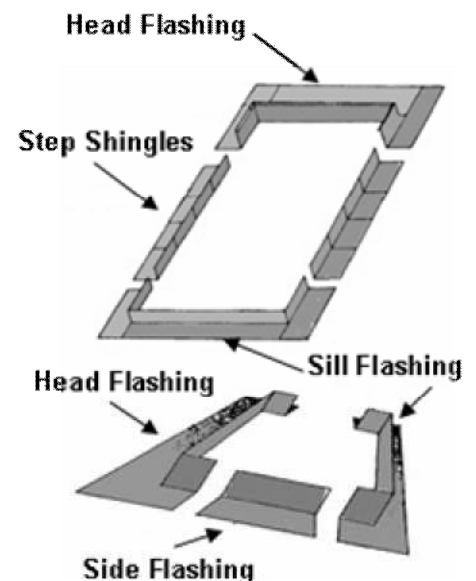

Fig. 3 - Flashing the Curb Box
Step 9 - Flashing the Curb Box: Flash the curb box using the most appropriate flashing material for your specific roof type (see Fig. 3 for common curb flashing materials). Replace tiles or metal roofing, leaving enough working space between the edge of the tiles and the curb box so that the flashing can be slipped into place.